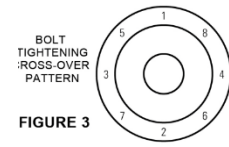

FIGURE 3
4. After proper operation is verified, tighten the bolts to the minimum recommended bolt torques listed in **Table 3**, using a cross-over pattern as shown in *Figure 3*.